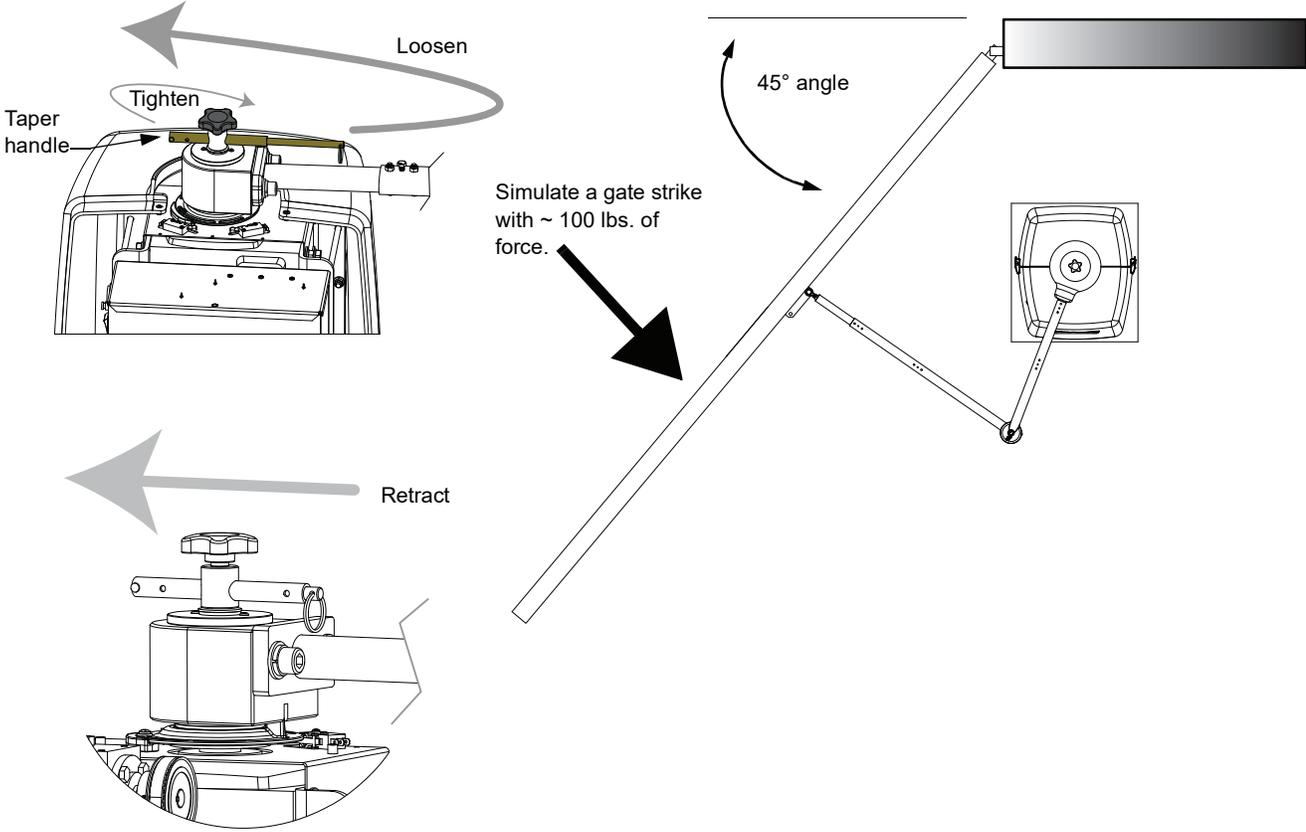

Figure 16. Setting the Taper Clamp
1. To loosen and release the taper clamp, extend the taper handle and turn the handle counterclockwise. See Figure 16.